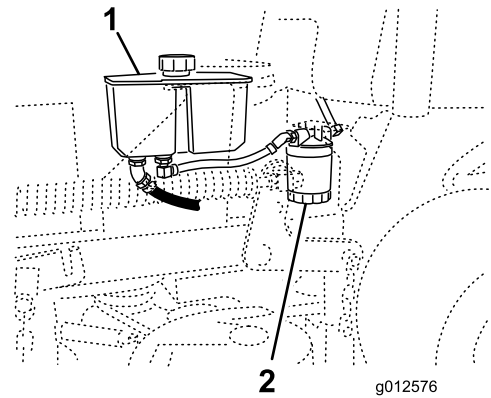

Figure 74
- 3. Locate the filter and place a drain pan under the filter (Figure 74).